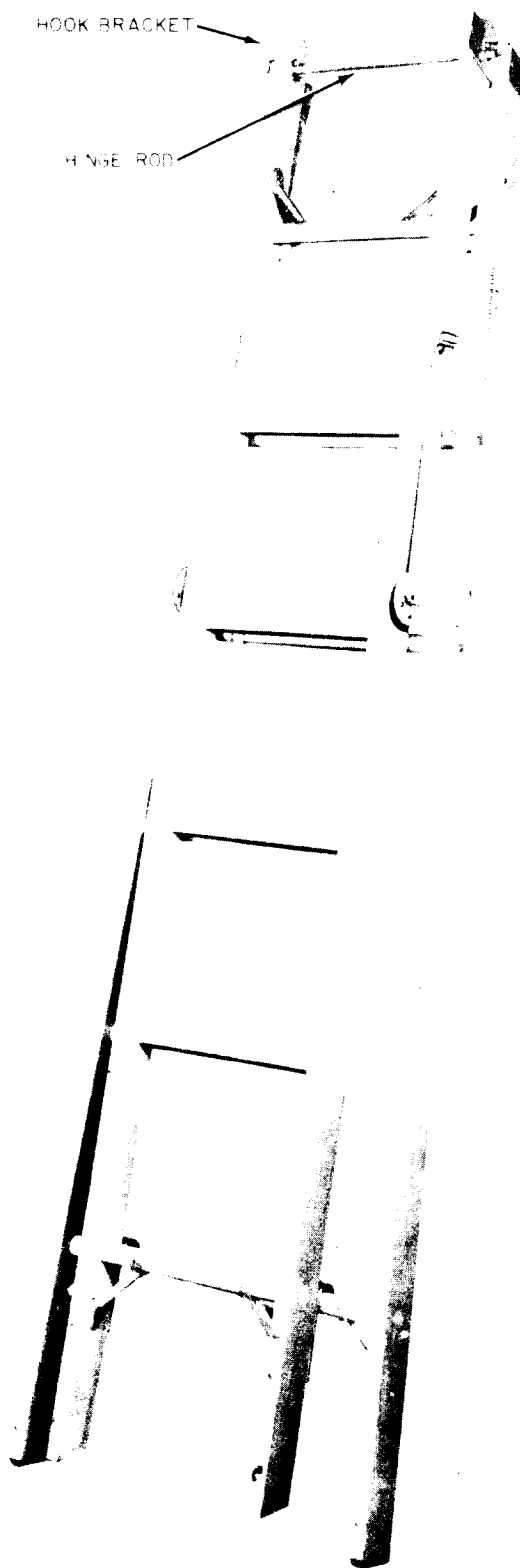
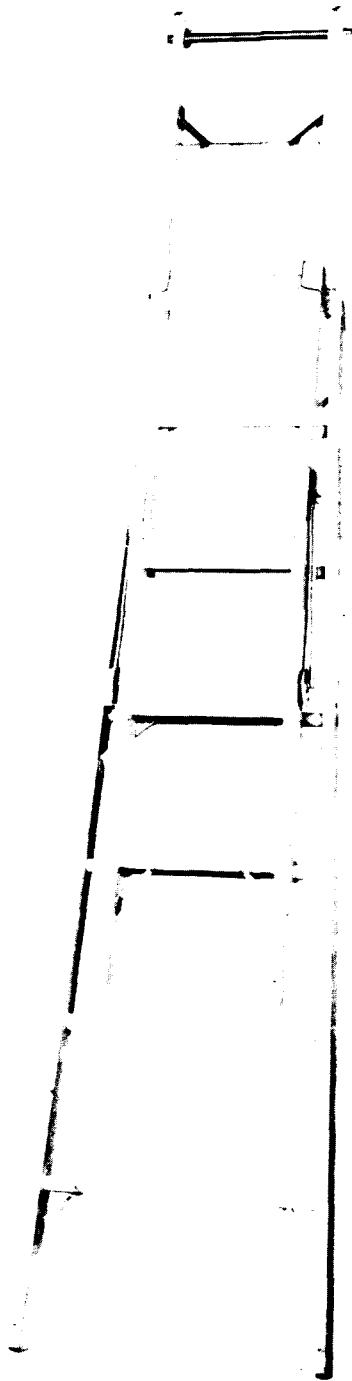

Fig. 5—B Combination Ladder (AT-7662) in Closed Position
Fig. 6—B Combination Ladder in Extended Position
5.03 To use B combination ladder as an extension ladder, start from a closed or folded position as shown in Fig. 5. Disengage hinge rod from hook brackets, slide narrow section up to the desired height, and place the two bottom hooks of narrow section over the appropriate rung of wide section. (Fig. 6).